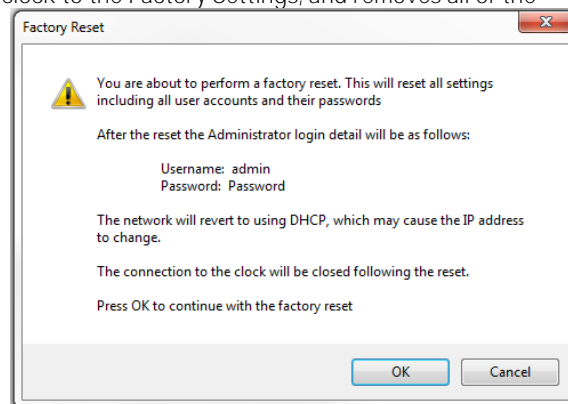

Figure 56 - "Factory Reset" window
**“Factory Reset” button:** The Factory Reset button returns the clock to the Factory Settings, and removes all of the Groups and Users configured in the device. When clicked, the **“Factory Reset”** warning window appears. Refer to Figure 56.